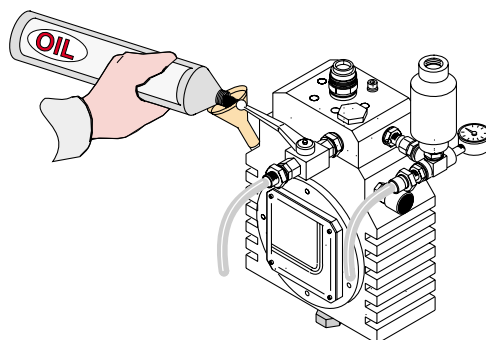

Fig.42
- c) Screw up the discharge cap and fill up with oil (fig. 42).